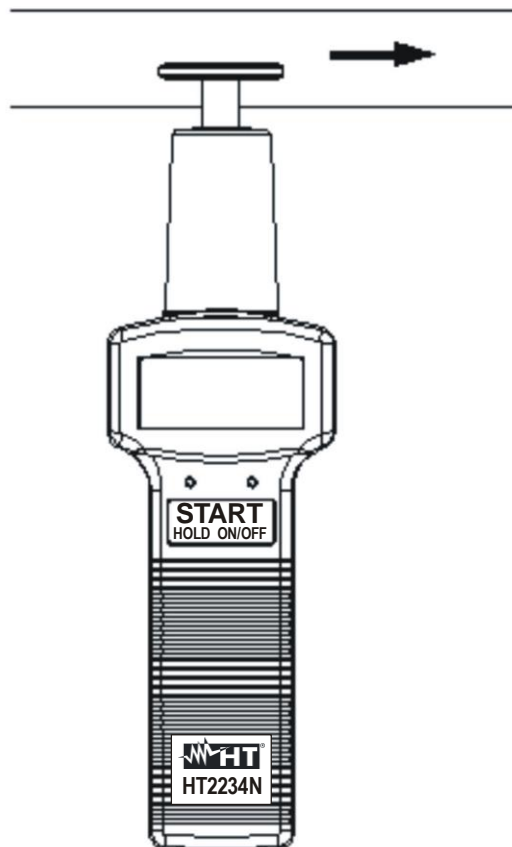

Fig. 4: speed measure on surfaces
4. Place the mechanical adaptor in contact with the surface on test, like is shown on Fig. 4: